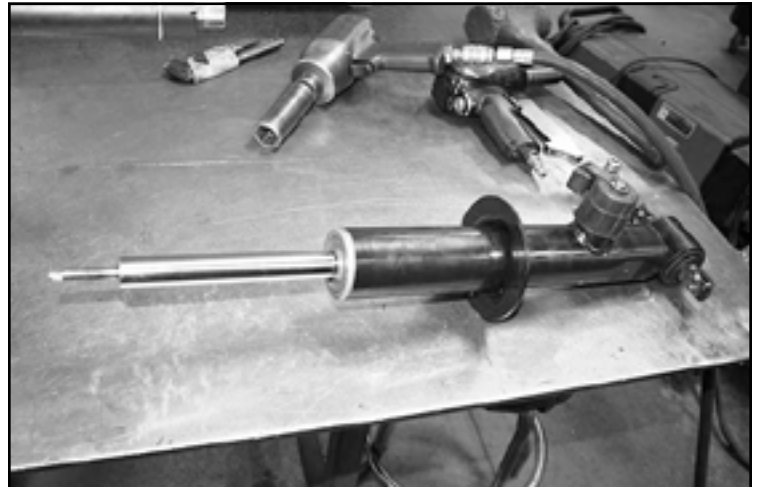

FIGURE 24 - STEP 17
- 17. Remove the foam bump stop, struct body cap and save. Then, slide off the lower coil spring perch plastic isolator. SEE FIGURE 24**